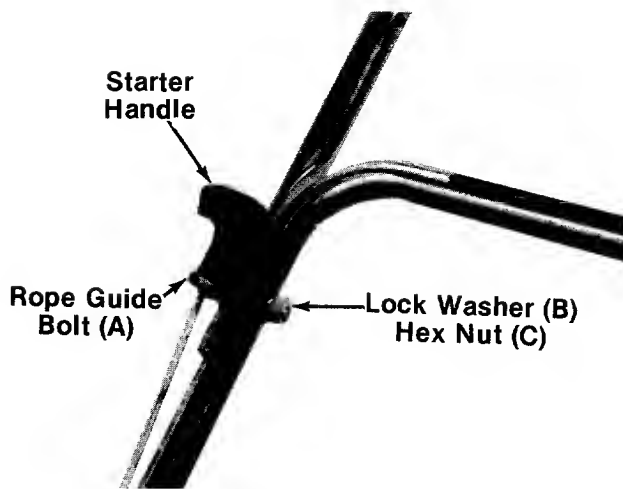

FIGURE 4.
5. Insert the rope guide bolt (A) through the right hand side of upper and lower handle.
7. Slip the starter rope into the rope guide bolt as shown in figure 4. Secure the rope guide bolt with lock washer (B) and hex nut (C). If more slack is needed in the starter rope, disconnect and ground the spark plug wire. Depress the blade control handle and pull additional rope out from the engine.